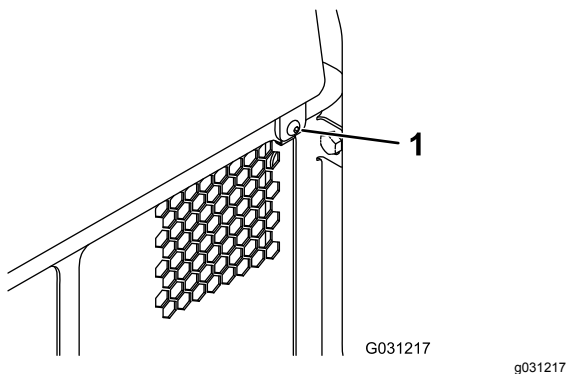

Figure 41
1. Remove the fastener (Figure 41).
2. Lift the rear-access cover up to access the internal components (Figure 41).